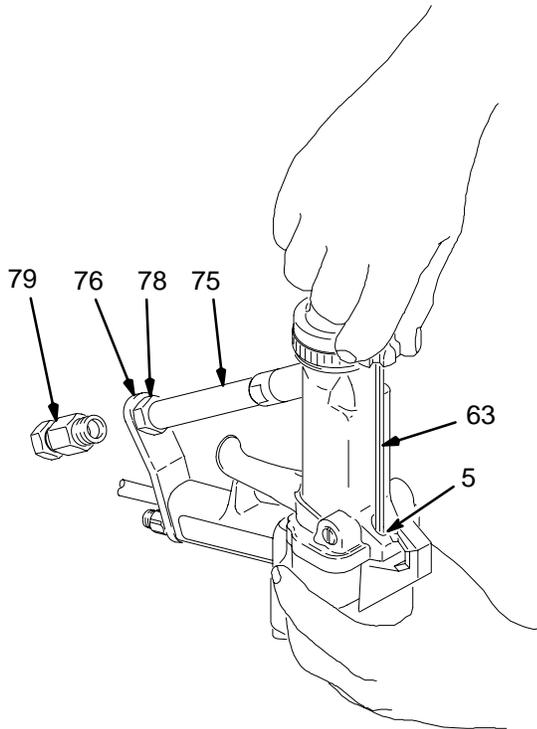
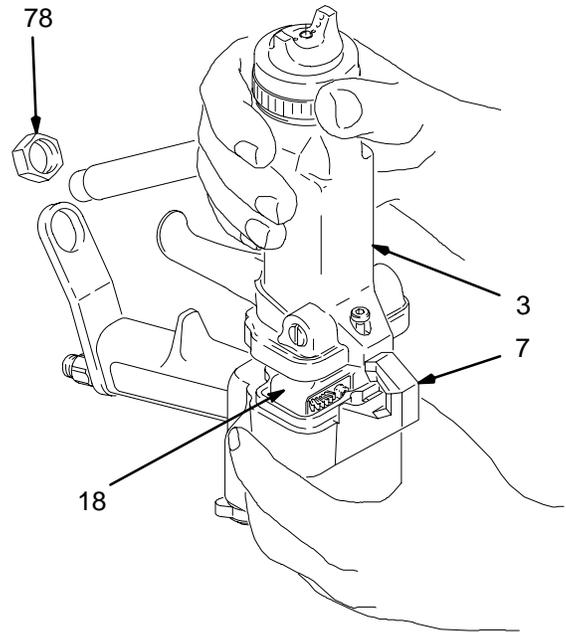

Fig. 25
Fig. 26
2. Loosen the nut (78) from the ferrule housing (79). Pull the ferrule housing through the gun bracket (76). See Fig. 25.
3. Loosen the three barrel screws (5) with the ball-end wrench (63).
4. Hold the gun handle (7) with one hand and pull the barrel (3) straight away from the handle to remove it. Be prepared to catch the nut (78). See Fig. 26.